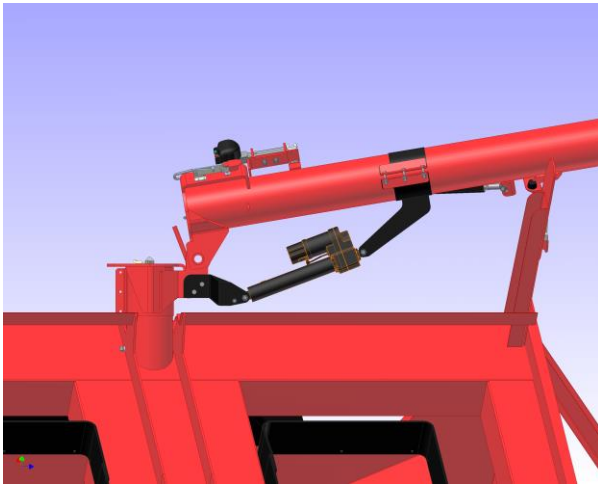

figure 4
4. Align the actuator mounts with the auger hinge as in figure 4. It is very important the actuator works and pivots parallel to the auger hinge. If not it will bind and cause actuator failure. With the ears aligned tighten the band clamps.